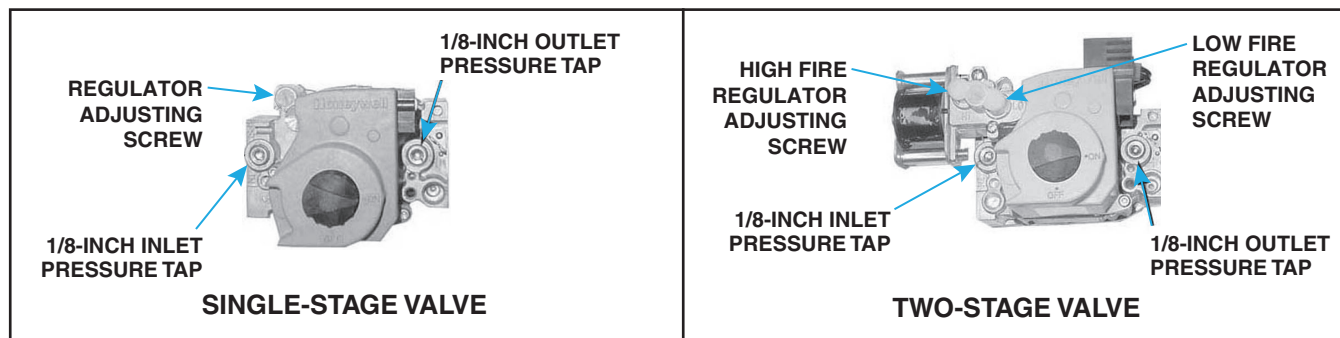

Figure 24. Combination Gas Valve Pressure Taps
1. With manual valve on combination valve positioned to prevent flow to main burners, connect manometer to 1/8-inch outlet pressure tap (see Figure 24) on valve.
4. Adjust pressure as necessary to required setting by turning regulator adjusting screw (see Figure 24)—IN (clockwise) to increase pressure or OUT (counterclockwise) to decrease pressure.